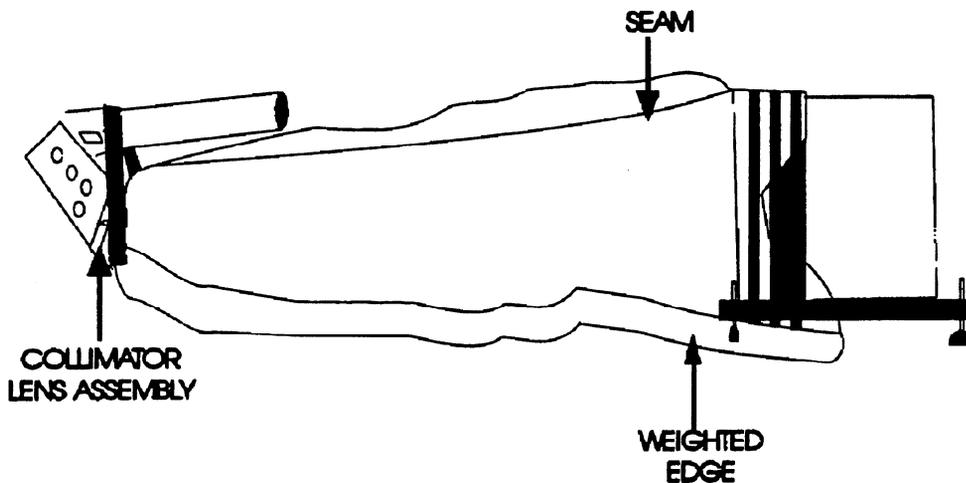

Figure 2-76. GAS Monitor Light Shroud
2.4.10.2 GAS Monitor Light Shroud Installation. Install the **GAS** monitor light shroud, shown in Figure 2-76, as follows.